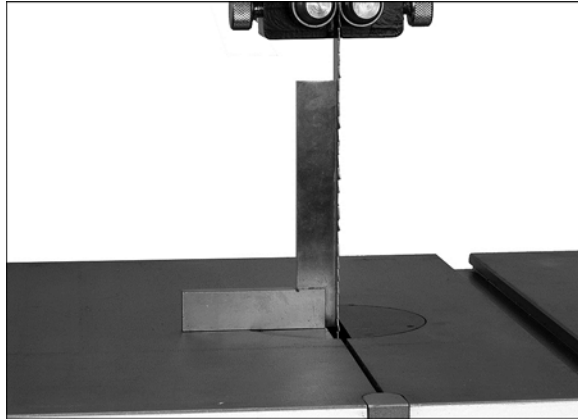

Figure 15
NOTE: For left tilt (as viewed from front or operator's side of saw), push stop bolt bracket (J, Figure 15) down.
- Tilt table until it rests on stop bolt (K).
- Loosen lock handle (F).
- Place a square on table (Figure 15) and against blade to check that table is 90° to blade. Do not push square into blade.